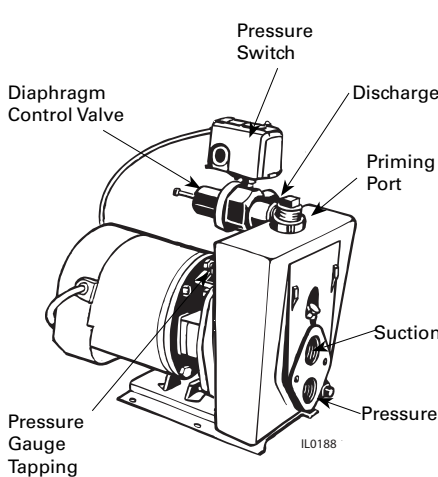

Figure 8 - CPJ Convertible 3/4 - 1-1/2 HP
4. Assemble a pressure gauge (not provided) in 1/4" tapping as shown in figures 8, 9 & 10.